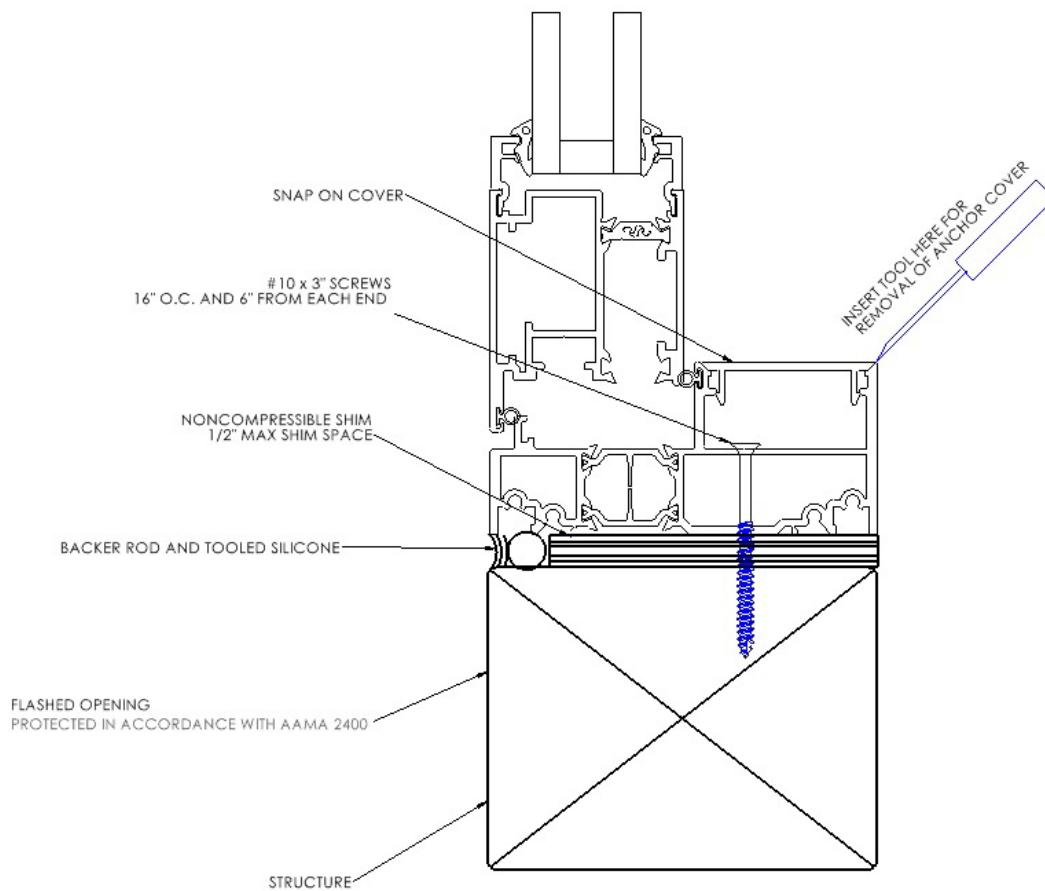

Figure 4
1. With a thin pry bar or thin putty knife, locate the edge of the interior cover to the frame joint and pry the cover off the frame. (See Figure 4).
2. Through each jamb and head of the frame, drill a 3/16" diameter installation hole 6" from each end and every 16" on center thereafter below the snap on cover. (See Figure 4).
Please see figure 4 below